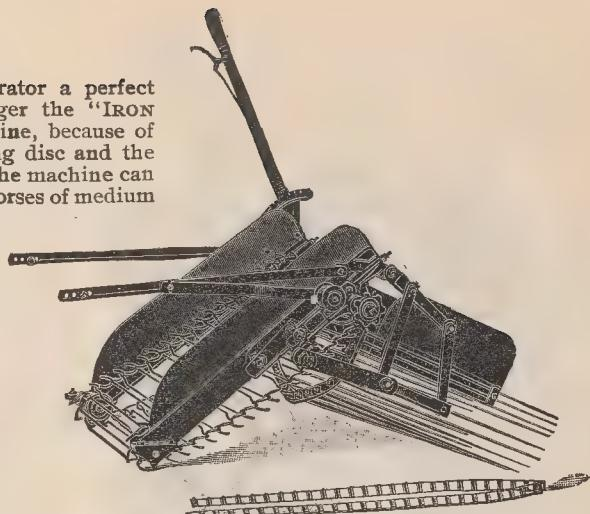

Fig. 201
No. 121—Elevator Attachment, as shown in Fig. 201 . . .	" " 255 " . . .
It will be noticed the "IRON AGE" Digger is designed upon novel lines and different from potato diggers heretofore offered. We wish to emphasize just at this point an important feature of this machine, aside from its mechanical construction—it being a Combination Low Down and Elevator Digger. This, we believe, is an entirely unique idea and something never before attempted. We feel safe in stating that to satisfactorily dig a large majority of the potatoes grown, taking the country as a whole, an elevator digger is not required with its attendant disadvantages, increased draft, excessive cost of repairs, unnecessary handling of the potatoes, etc., etc. Therefore, under such circumstances the "IRON AGE" Digger is used as a Low Down Digger; but when it meets those conditions where an Elevator Digger is absolutely necessary, in order to get satisfactory separation, the elevator attachment shown in Fig. 201 may be quickly applied,
**The Vine Separator Attachment, Fig. 201**—We offer this attachment to those desiring to separate the vines from the potatoes. The vines are delivered to one side of the row while the potatoes fall between the tines of the shaker and are placed in a narrow space in the middle of the row. The use of this attachment also often produces better separation on account of the curved tines. Price of necessary parts to apply to the shaker,